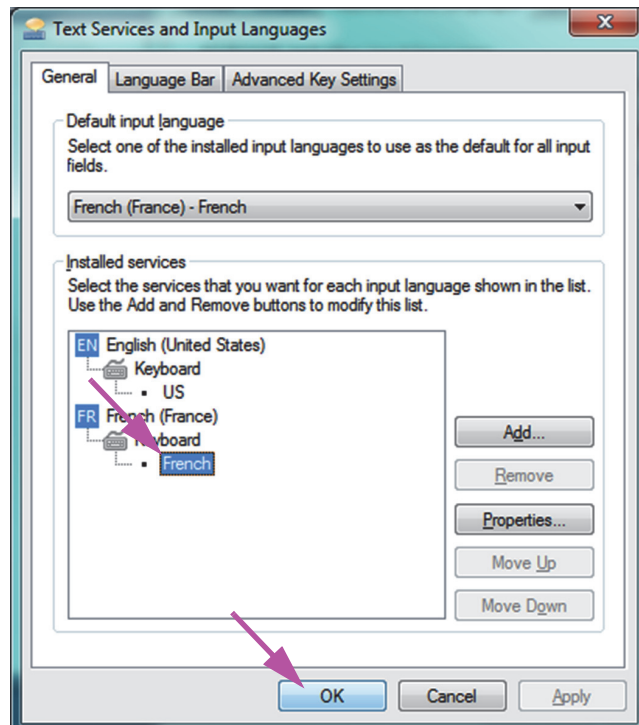

Figure C-6. Text Services and Region and Language Screen—General Tab
7. Click the **General** tab (see Figure C-6) and use the scrollable box in the Installed services section to select the (new) desired keyboard and click the **OK** button.